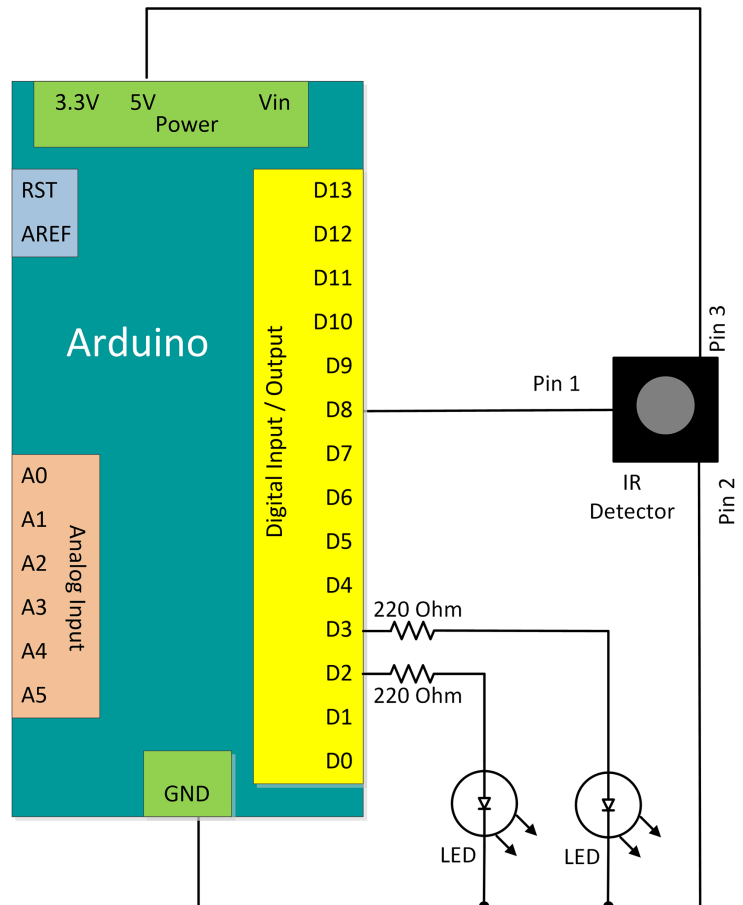

Figure 12-4. Schematic Diagram
1. Construct the circuit as shown in Figure 12-4.
Figure 12-4 is a schematic. The IR sensor's pin 1 is NOT the center pin. It just sort of looks that way because a schematic is drawn for a simple diagram of the electronic components.